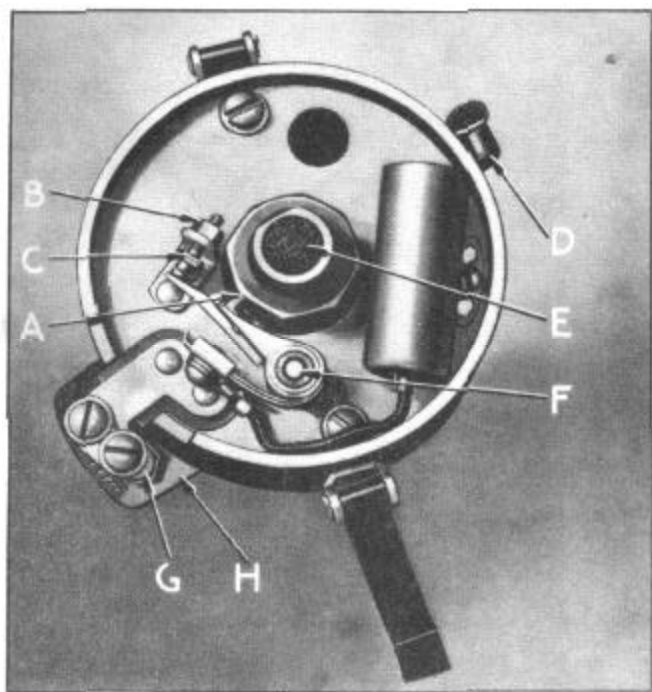

Figure 26--Distributor - 8 Cylinder Models
The distributor, Figure 26, is located on the right side of the engine.
Every 2,000 miles insert a few drops of light engine oil in oiler (D), Figure 26, and shaft wick (E). Also apply one drop of oil to contact arm pivot (F). Apply a light coating of high temperature grease to cam lobe (A). Avoid over-oiling.
Remove distributor cap. Turn engine over until breaker arm fibre block (A), Figure 26, is on highest point of
1. Loosen the distributor clamp screw (G), Figure 26, and rotate the distributor housing clockwise to the limit of the slot in the clamping plate (H).
5. Tighten the distributor advance arm screw (G). Replace the cable in the distributor cap and replace the cap on the distributor.